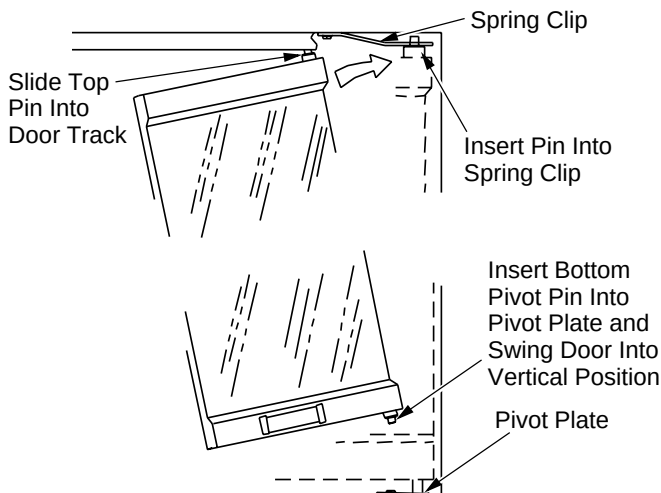

Figure 33 - Installing Optional Glass Door
2. With the handle facing the center of the firebox opening, insert the lower pivot pin on the glass door panel into the hole in pivot plate on the bottom edge of the fireplace opening (see Figure 33).
4. Tilt the door assembly fully vertical until the outer pivot pin snaps into the mounting hole in the upper spring clip (see Figure 33).